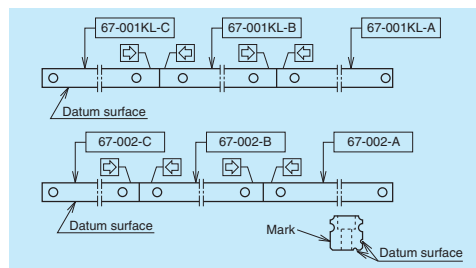

Fig. 10.25
- The rails with butting specification are marked with letters (A, B, C ...) and an arrow on the opposite side of the mounting datum surface. Use the letters and arrows for assembly order and direction of the rail (Fig. 10.25).